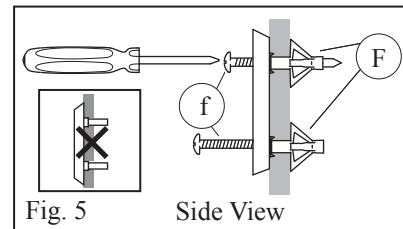

Fig. 5
8. Place the mounting bracket (C) over the molly bolts (F). Insert the screws (f) back through the bracket and the molly bolts, then tighten firmly with Philips head screwdriver. (Fig. 5)